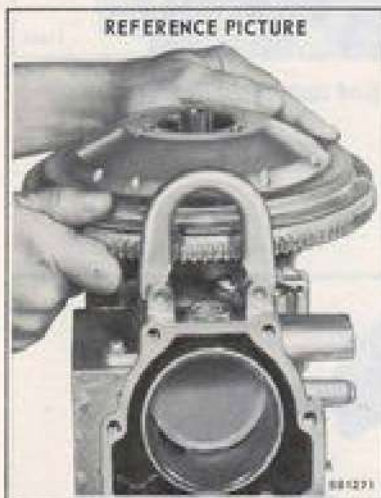

Figure 5-44. Check for Binding
- c. Check for binding between the crankshaft and the bearings or connecting rods by rotating the crankshaft with the flywheel. See Figure 5-44.